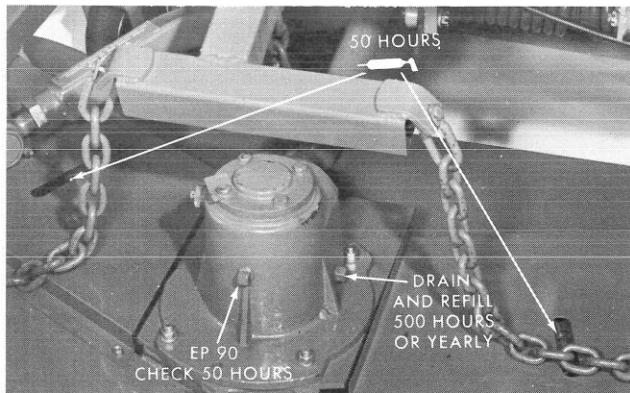

Figure 31
**Universal Shaft & Joints (3)** — Service every 50 hours with chassis lubricant.
**Gear Box** — Lower cutting deck so caster wheels are on level surface. Remove level plug (front) and check oil level. Replenish if necessary with SAE 90 EP gear oil. See Figure 31.
**Steering Gear (1)** — Service every 50 hours with chassis lubricant.
**Brake Pedals (2)** — Service every 50 hours with chassis lubricant.
**Caster Wheels and Pivot Shafts (8)** — Service every 50 hours with chassis lubricant.
**Push Arms (4)** — Service every 50 hours with chassis lubricant.
**Gear Box** — Every 500 hours, or yearly (whichever comes first) drain the gear box and refill to level plug opening with SAE 90 EP Gear Oil. The capacity of the gear box is approximately one pint. See Figure 31.